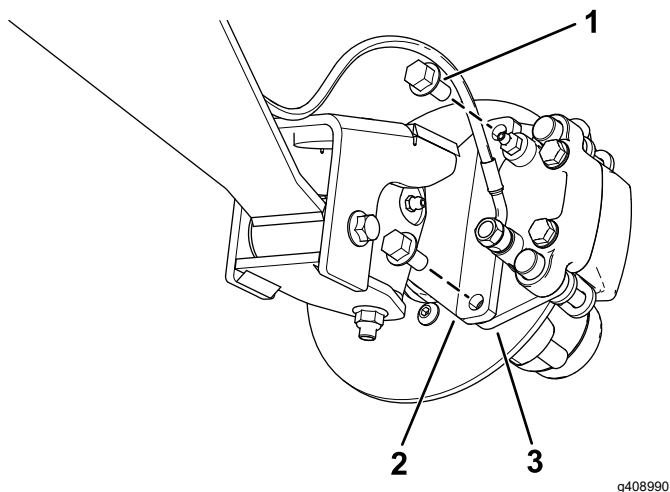
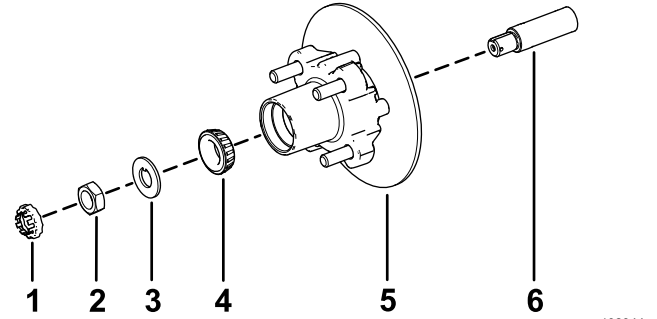

Figure 21
Figure 25
3. Remove the flange-head bolts (3/8 x 3/4 inch) that secure the bracket for the brake assembly to the spindle and separate the brake from the spindle (Figure 21).
1. Apply a light coat of the specified grease to the spindle (Figure 25).
2. Assemble the hub and rotor onto the spindle with the rotor inboard (Figure 25).
3. Assemble the outboard bearing onto the spindle and seat the bearing to the outboard race (Figure 25).
4. Assemble the tab washer onto the spindle (Figure 25).
5. Thread the spindle nut onto the spindle and tighten the nut to 15 N·m (11 ft-lb), while rotating the hub to seat the bearing (Figure 25).
2. Align the brake pads to either side of the rotor (Figure 21) and the holes in the caliper bracket with the holes in the brake mount of the spindle frame (Figure 25).
3. Secure the caliper bracket to the spindle frame (Figure 21) using the 2 flange-head bolts (3/8 x 3/4 inch).